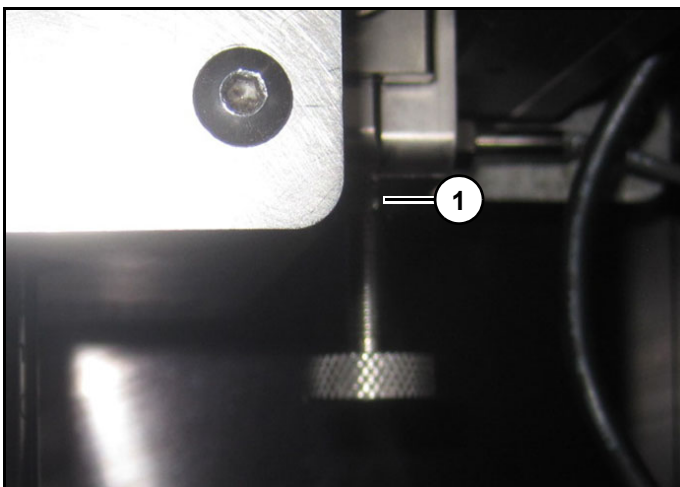

Figure 11
Ensure jam nut (1) (*Figure 11*) is tight, using a 10 mm box wrench.